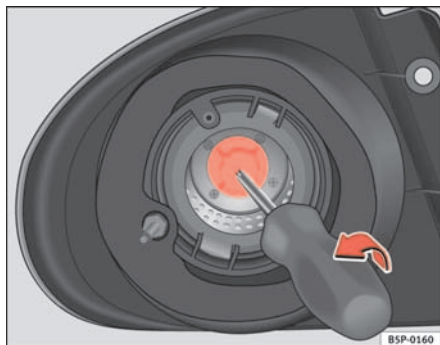

Fig. 184 Indicator lights
- Pull out the lamp holder from the turn signal using a screw driver in the direction of the arrow (see ⇒ fig. 184).